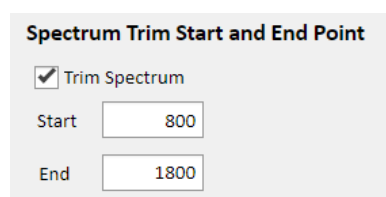

Figure 15: Data Trimming.
- Data trimming is turned on by default when using the control panel for biological tissues. (Fig. 15)